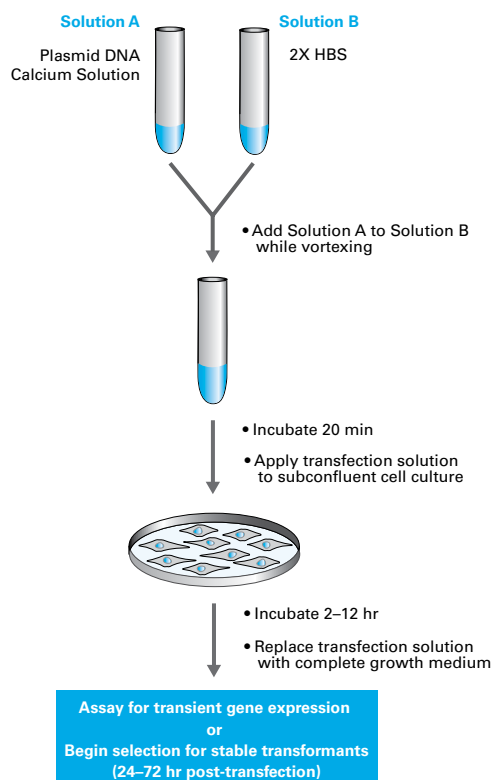

Figure 1. The CalPhos Mammalian Transfection Kit protocol.
A simple, single-step reaction uses an optimized mix of poly(A) polymerase and **SMART™ MMLV Reverse Transcriptase** to synthesize first-strand cDNA from your RNA sample (Figure 1). The cDNA is then specifically amplified and quantified by qPCR using your miRNA-specific primer and our SYBR Ad-
Figure 1. Mir-X miRNA qRT-PCR SYBR Kits use a single-step, single-tube reaction to produce first-strand cDNA, which is then specifically and quantitatively amplified using a miRNA-specific primer and SYBR Advantage qPCR chemistry. In the Mir-X cDNA synthesis reaction, RNAs are poly(A)-tailed using poly(A) polymerase, and then copied using a modified oligo(dT) primer and SMART MMLV Reverse Transcriptase.
We tested the performance of Xfect against competitor transfection reagents on several commonly used cell lines, and demonstrated superior transfection efficiency with Xfect in HeLa, HEK-293, CHO-K1, and HT1080 cells (Figure 1). Xfect is also less cytotoxic, which led to higher viability (Table I). In another comparison using Jurkat cells, which are notoriously difficult to transfect, Xfect also produced superior transfection efficiency, which was >40-fold higher than the competitor product, LX.
Figure 1. Obtain high transfection efficiencies in many cell types with Xfect. Xfect and Product L were used according to their respective protocols to transfect the indicated cell lines with an AcGFP1 expression vector. 48 hr posttransfection, the cultures were assessed for AcGFP1 expression using flow cytometry in order to determine transfection efficiency.
Xfect Protein Transfection Reagent uses a cell-penetrating peptide developed at Clontech to bind and transport active proteins directly into a wide variety of mammalian cell types, including hard-to-transfect human suspension cell lines and mouse embryonic stem cells (Figure 1).
Figure 1. Simple, rapid protein transfection with Xfect Protein Transfection Reagent. Xfect's cell-penetrating activity enables proteins to be transported across membranes of mammalian cells.